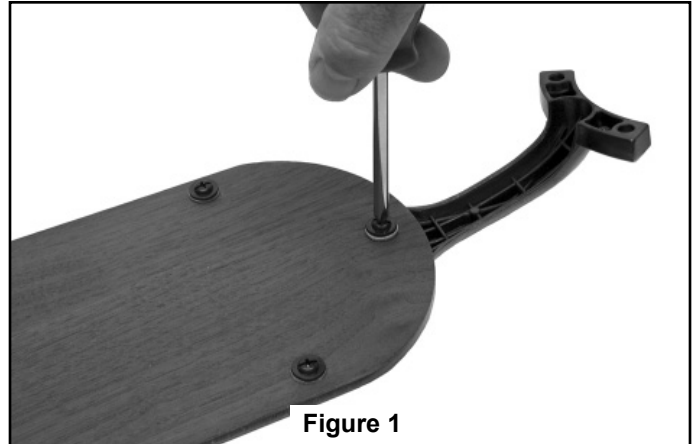

Figure 1
1. Mount the wooden blades on the blade holder with three screws and three fiber washers. (Figure 1)